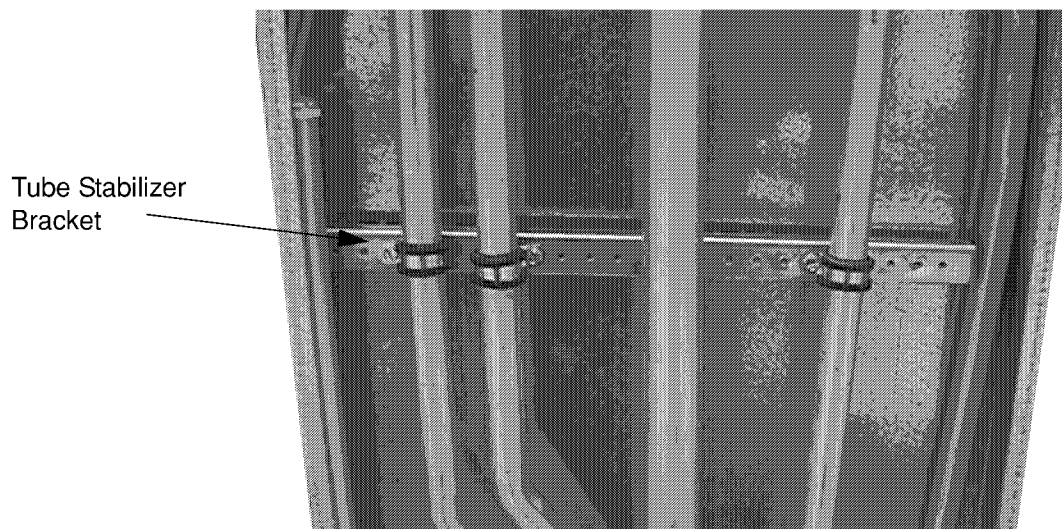

Figure 3-8 Tube Stabilizer Bracket
17. Attach the Tube Stabilizer bracket on both columns of the pump and secure the Upper Fluid tubes using the hardware removed earlier. See Figure 3-8.